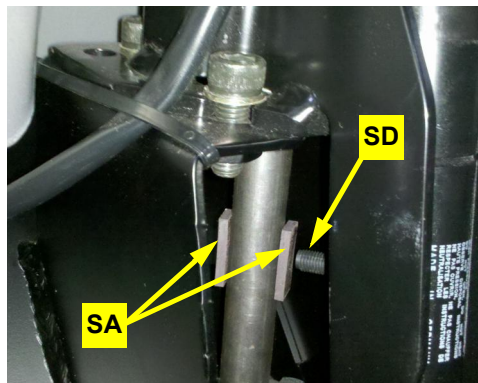

Figure 2c: Installed magnets
- c. Using hardware **WJ**, mount the WAS assembly from step 1 on the inner face of bracket **WK**. Mount the WAS assembly with wire connector **WB** uppermost and pointing to the front center of the machine (Figure 2c with inset).
Figure 2c with inset: WAS assembly installed
180° apart on the steering shaft. Align the center of the magnets with the tip of the switch sensor (Figure 2c).